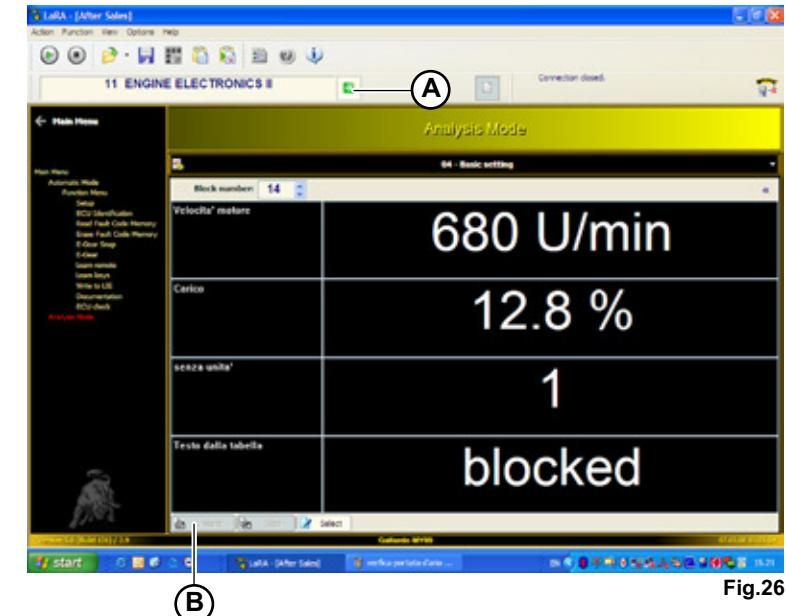

Fig.26
- Select routine 14 inside the block number (A-Fig.26) on the SLAVE “11” control unit.
- Start the connection () and press the start push-button (B-Fig.26).